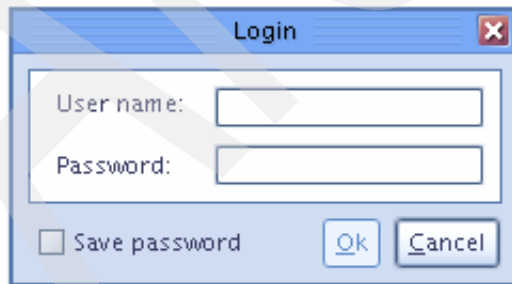

Figure 6-23 PT Manager_node login
4. Click **Login**. The login panel will prompt; see Figure 6-23 on page 113.